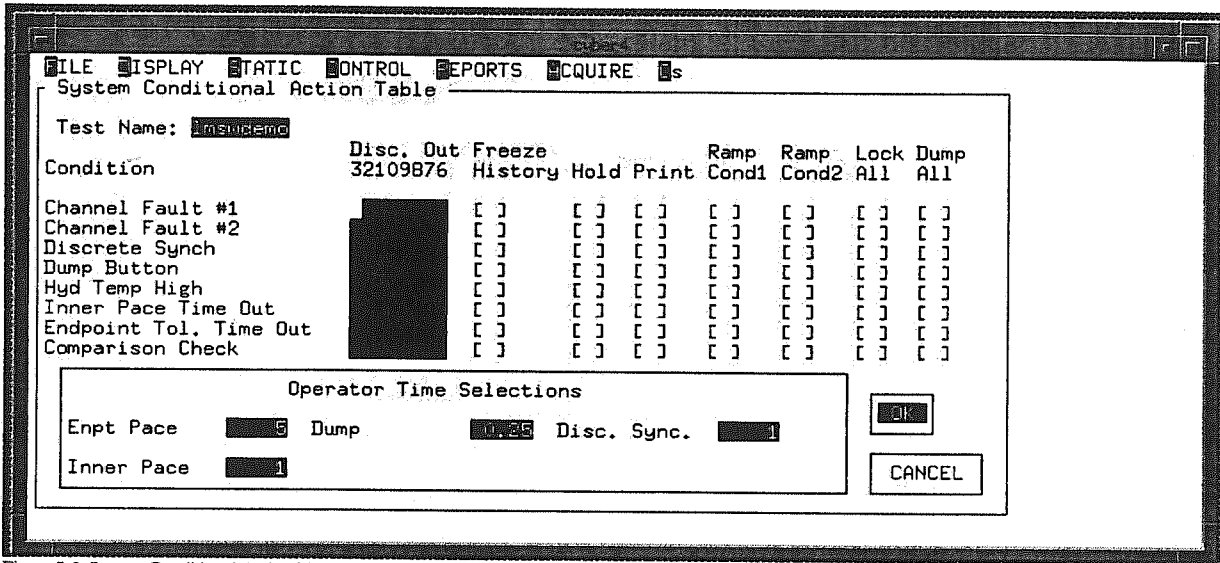

Figure 5-2. System Conditional Action Table Screen
- Step 1:** Select the Display menu, System Conditional Actions option. The System Conditional Action Table screen, Figure 5-2, is displayed. The screen lists the possible system conditions at the left; the columns to the right define the available actions.